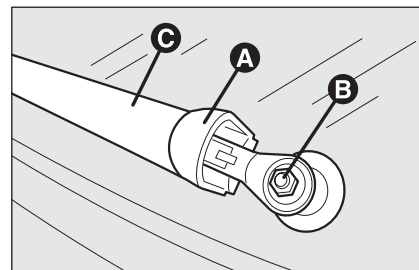

fig. 2
- ☐ raise the cover **A**-fig. 2, slacken the nut **B** and remove the arm **C**;